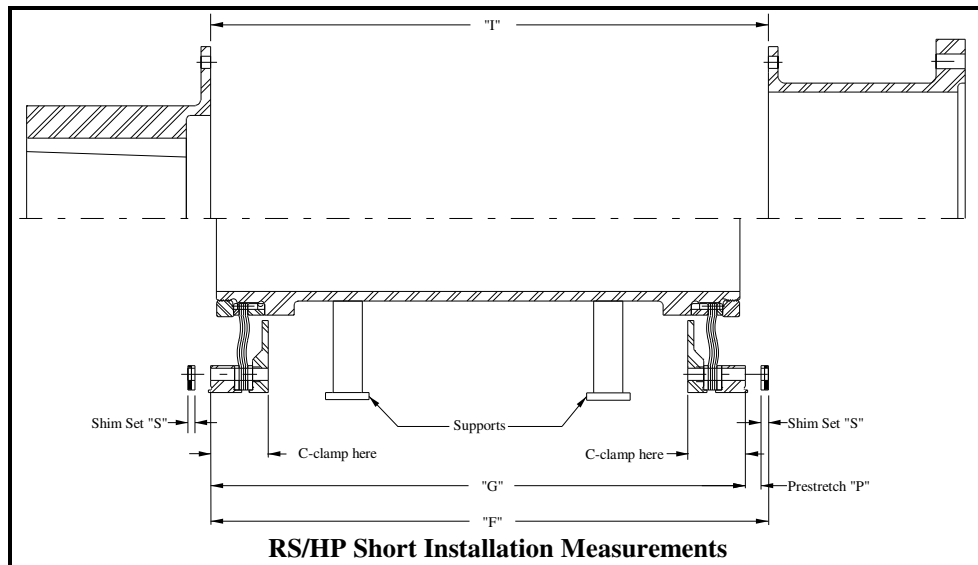

Figure 4-9
4.4.3.1 Measure and record, on the worksheet provided in Paragraph 4.4.5, the installation length "I" (distance between mounted flange faces) at four (4) places approximately 90° apart (see Figure 4-9).
4.4.3.2 Assemble the spacer rings, as shown on the Ameridrives Sales Drawing, onto both ends of the diaphragm pack sub-assembly taking care to re-align the matchmarks and end identification letters. Install a minimum of four (4) bolts approximately 90° apart through each spacer ring and tighten the bolts evenly in a criss-cross pattern to seat the pilots. On some size couplings the grip length of the bolts is too long to allow seating of the pilots in this manner. When this condition exists, a spacer plate, washers, shorter bolts, or C-clamps (not supplied) may be required to seat the pilots. Support as shown in Figure 4-9).
4.4.3.3 Measure and record, on the worksheet in Paragraph 4.4.5, the coupling free length "G" (distance between spacer ring outer flange faces) at four (4) places approximately 90° apart. It is recommended that C-clamps be used to compress the diaphragm pack at the location the measurements are being taken (see Figure 4-9).